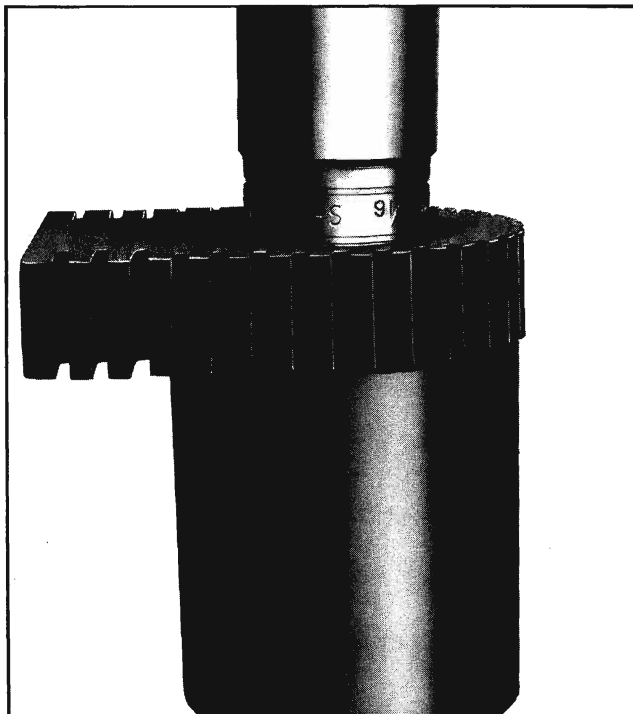

Fig. 4-19 Removing Bearing from Insulator
1. While supporting insulator with J-7022-3 or other suitable tool (Fig. 4-19) press bearing from insulator using socket. Use inner race to press out bearing.